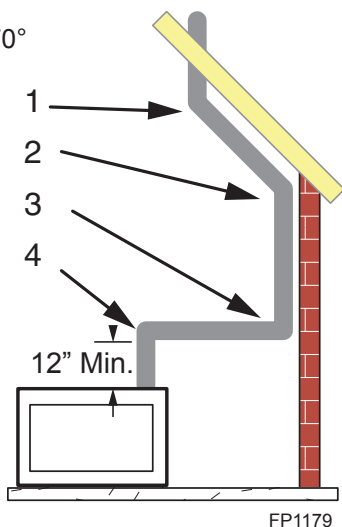

Figure 24 - Maximum Elbow Usage
- The maximum angular variation allowed in the system is 270°. *Figure 24*